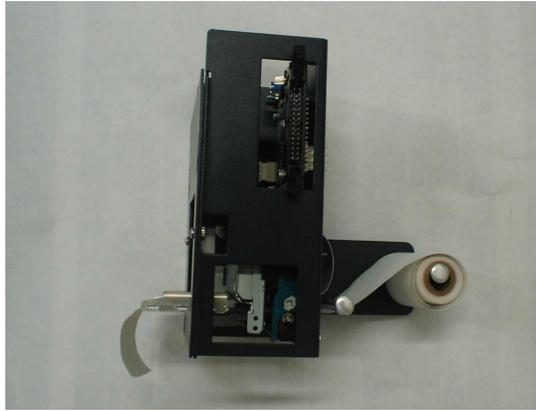

Figure P3: AC7074 Printer – Side View, Showing Proper Roll Placement
2. Move the "Paper Feed Lever" back to the DOWN position. Slide a new roll of paper onto the "Roll Holder," oriented so the paper comes off on the side toward the printer (refer to Figure P3 for the correct placement).
3. Wrap the paper under the "Paper Guide" and begin to feed it into the "Paper Slot." You do not need to fold or cut the paper in any way; it should be left square in the front. At a certain point as the paper is being fed in, the printer will detect it and automatically feed it to the printing position. When done, the setup should look like Figure P3.
2. With the "Paper Feed Lever" still in the UP position, slide a new roll of paper onto the "Roll Holder," oriented so the paper comes off on the side toward the printer (refer to Figure P3 for the correct placement).